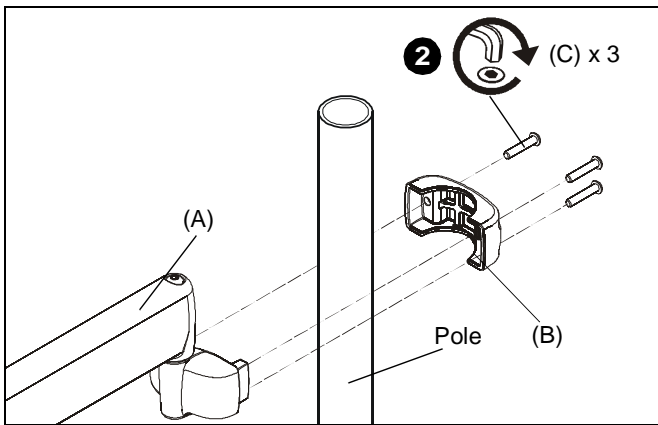

Figure 1
2. Place dual arm assembly (A) against pole, with back pole clamp (B) on opposite side of pole. Using 5/32" hex key, loosely assemble with three 1/4-20 x 1-1/4" button head cap screws (C). (See Figure 1)